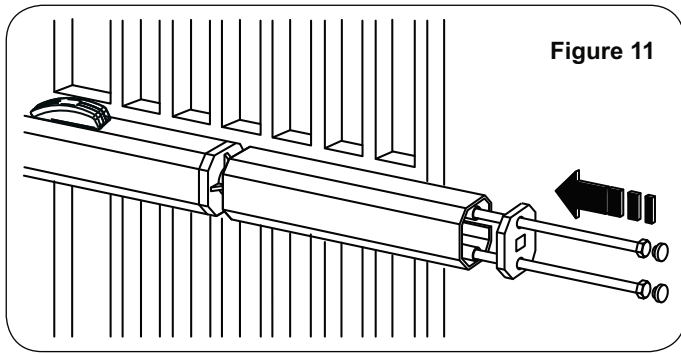
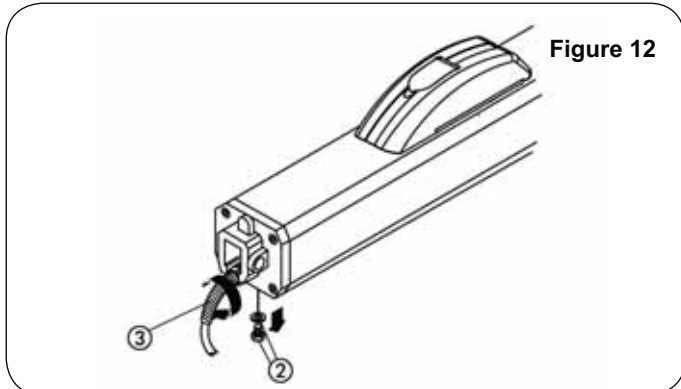

Figure 11
Figure 12
- 13.) Prepare the protective housing and fit it on the operator as shown in Fig. 11. Fit the electric cable strain relief (Fig. 12, Ref. 3).
- Remove the vent screw (Fig.12, Ref. 2).